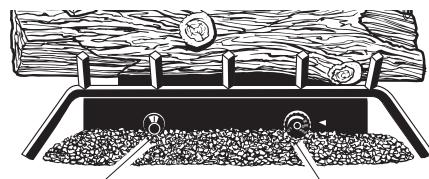

Figure 23 - Control Knob and Ignitor Button Location
5. Turn control knob counterclockwise  to the PILOT position. Press in control knob for five (5) seconds (see Figure 23, page 16).
**Note:** If pilot goes out, repeat steps 3 through 7. This heater has a safety interlock system. Wait one (1) minute for system to reset before lighting pilot again.